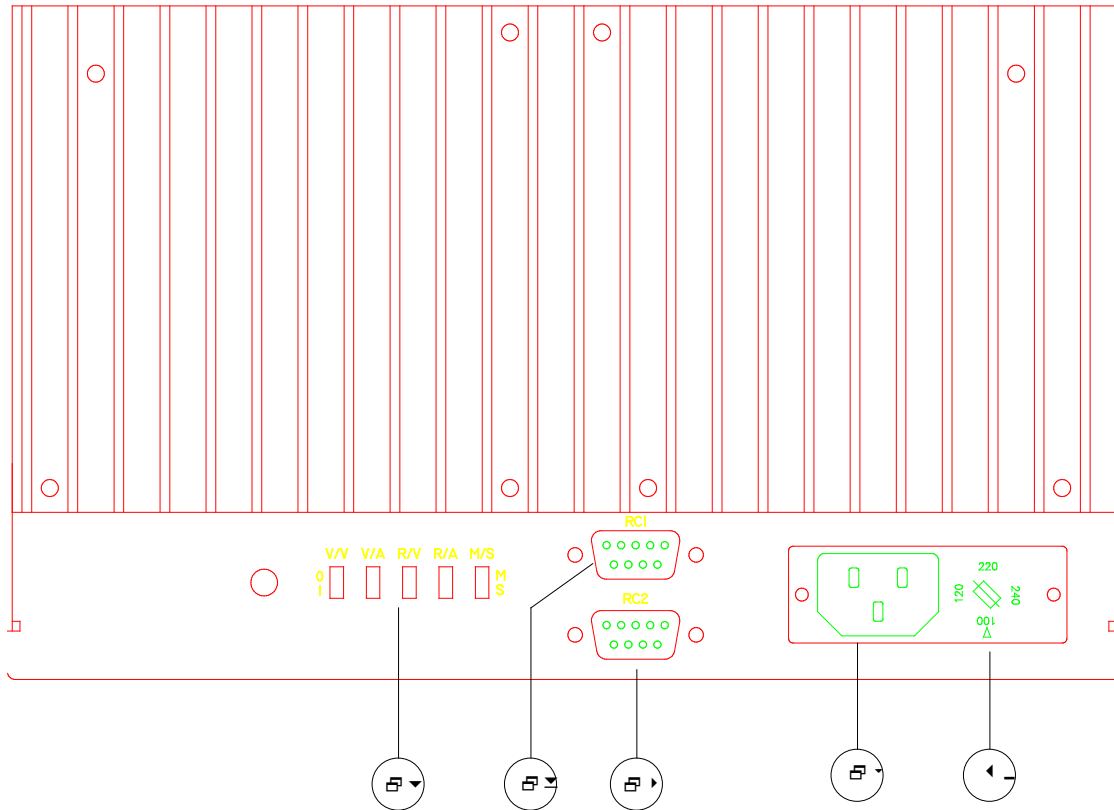

Figure 2 Rear Panel
The fuse is located inside the input power fuse holder (refer to Figure 2). You need to change the fuse when:
1. Use a flathead screwdriver to detach the Input Power Fuse Holder and Input Voltage Selector unit (refer to Figure 2).